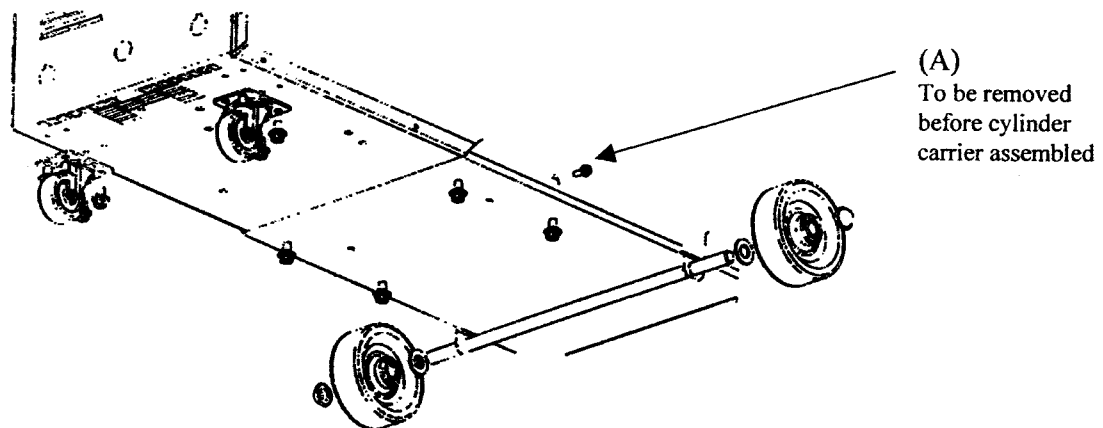

Figure 1 – Transmig 220/250 Castor and Carrier Assembly
- b) Install the washers, wheels, and Fastener in the position as shown Figure 1
- a) Install the two swivel castors in the position as shown in Figure 1 using the M8 fasteners.
- b) Remove M5 screws from machine as shown by (A) in Figure 1
- c) Install the assembled cylinder carrier in the position as shown in Figure 1 using the M8 fasteners